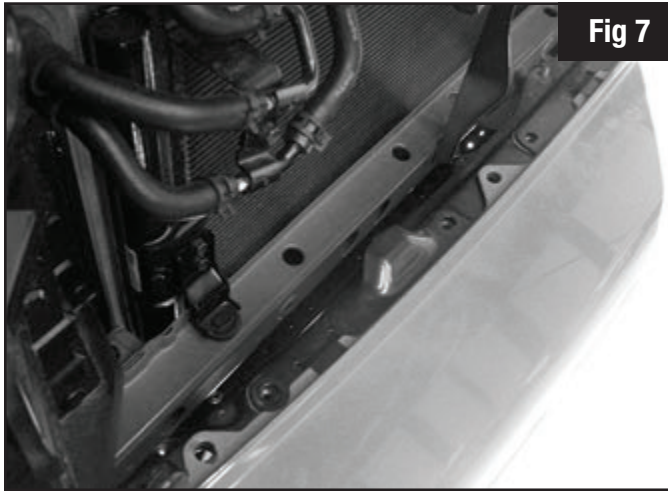

Fig 7
K) Remove (8) 10MM bolts from center of plastic bumper mold. **Fig 7.**